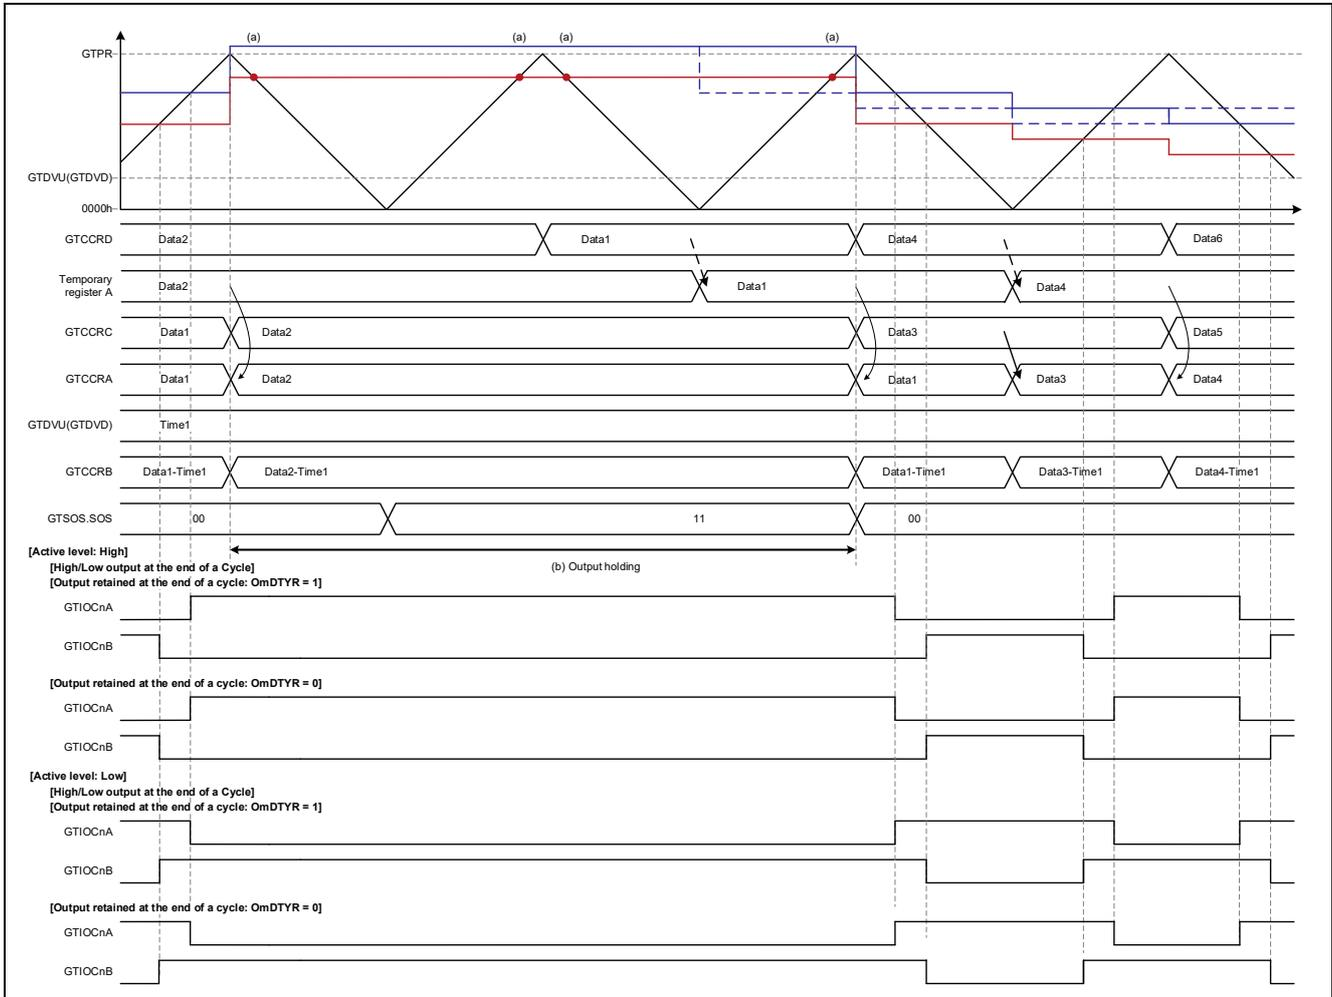

Figure 1.108 Triangle-Wave PWM Mode 3 Operation Example
Operation examples when an abnormal value (value exceeding GTPR register setting value) setting is used as listed in Table 1.11, Table 1.12, and Table 1.13 are shown in Figure 1.100 to Figure 1.108 and applicable cautions are described below.
- Operation Example 9: Figure 1.108 Triangle-Wave PWM Mode 3, Abnormal Value (Transfer at Crest)/Normal Value (Transfer at Crest)
Figure 1.108 shows an operation example of transfer of a value exceeding GTPR to GTCCRA via buffer transfer at crest and return via buffer transfer at crest of a normal value in triangle-wave PWM mode 3.